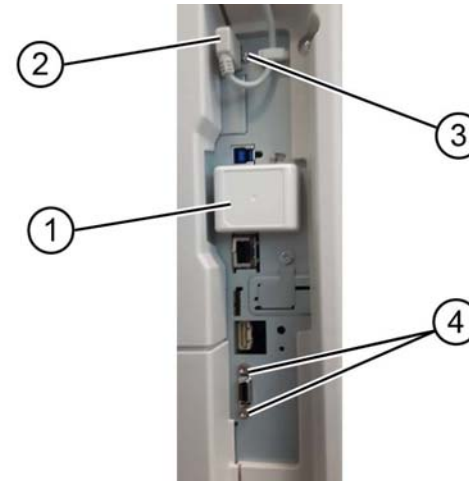

Figure 11 ESS PWB side connectors
12. Disconnect the connectors and fittings from side of ESS PWB, Figure 11.
- If fitted, remove the wireless dongle (1).
- Disconnect the USB cable (2).
- Remove screw for the USB connector (3).
- Remove screws for the D-type connector (4).